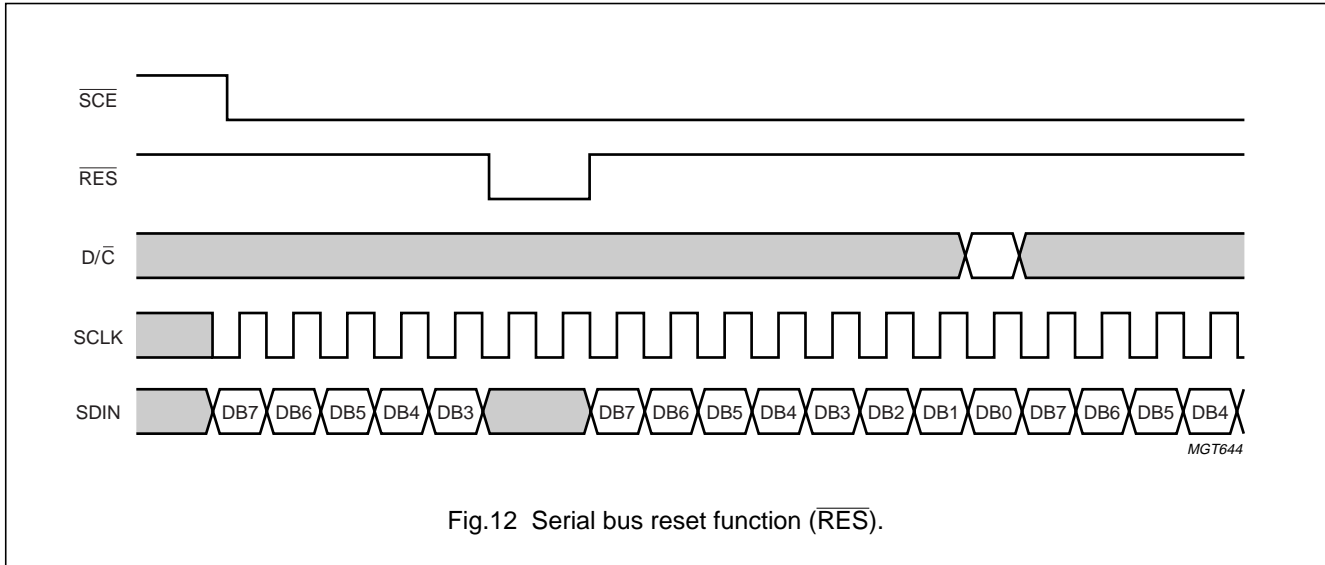

Fig.12 Serial bus reset function (RES).
- A reset pulse with  $\overline{RES}$  interrupts the transmission. The data being written into the RAM may be corrupted. The registers are cleared. If  $\overline{SCE}$  is LOW after the rising edge of  $\overline{RES}$ , the serial interface is ready to receive the  $\overline{D/\overline{C}}$  bit of a command/data byte (see Fig.12).